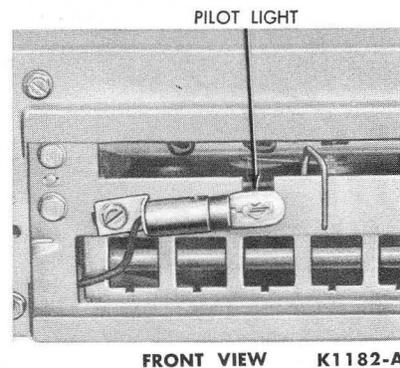

FIG. 5—Pilot Light Location
1. Remove the radio from the car, and remove the dial retaining plate (Fig. 5).